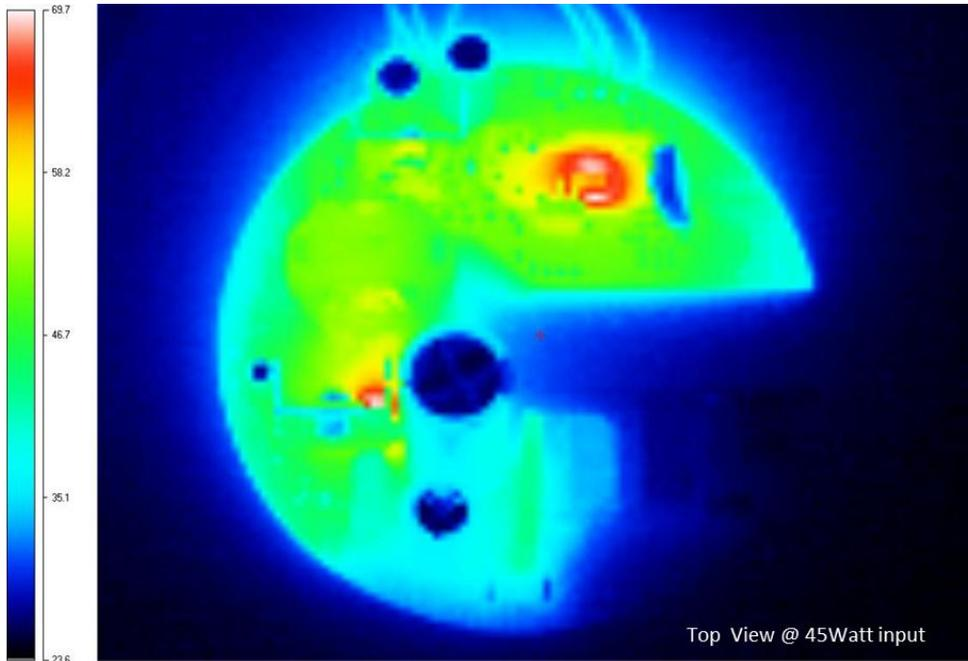

Figure11: PCB top side thermal image at 230Vac/ 45Watt input power
- 5. **Thermal Image of test board:** Figures 11 and 12 shows thermal image of top and bottom of test board at 250 Celsius ambient during 45watt input power. The maximum temperature rise of ~550 Celsius is observed at DRV10983 case and snubber-diodes (D8/D9).